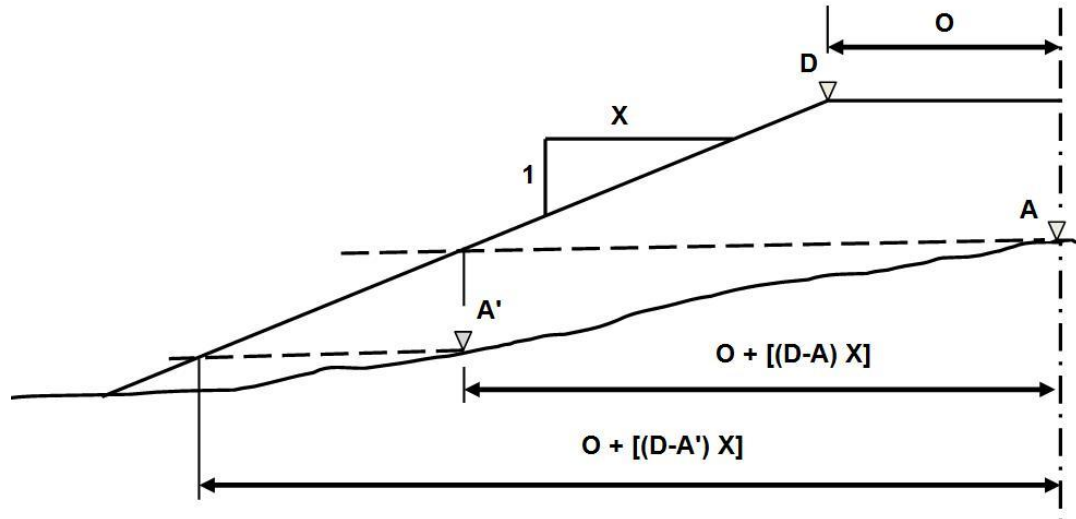

Figure 9
4. Calculate the initial offset to the embankment toe or cutting edge based on the level just taken A and using the following formula, reference to figure 9